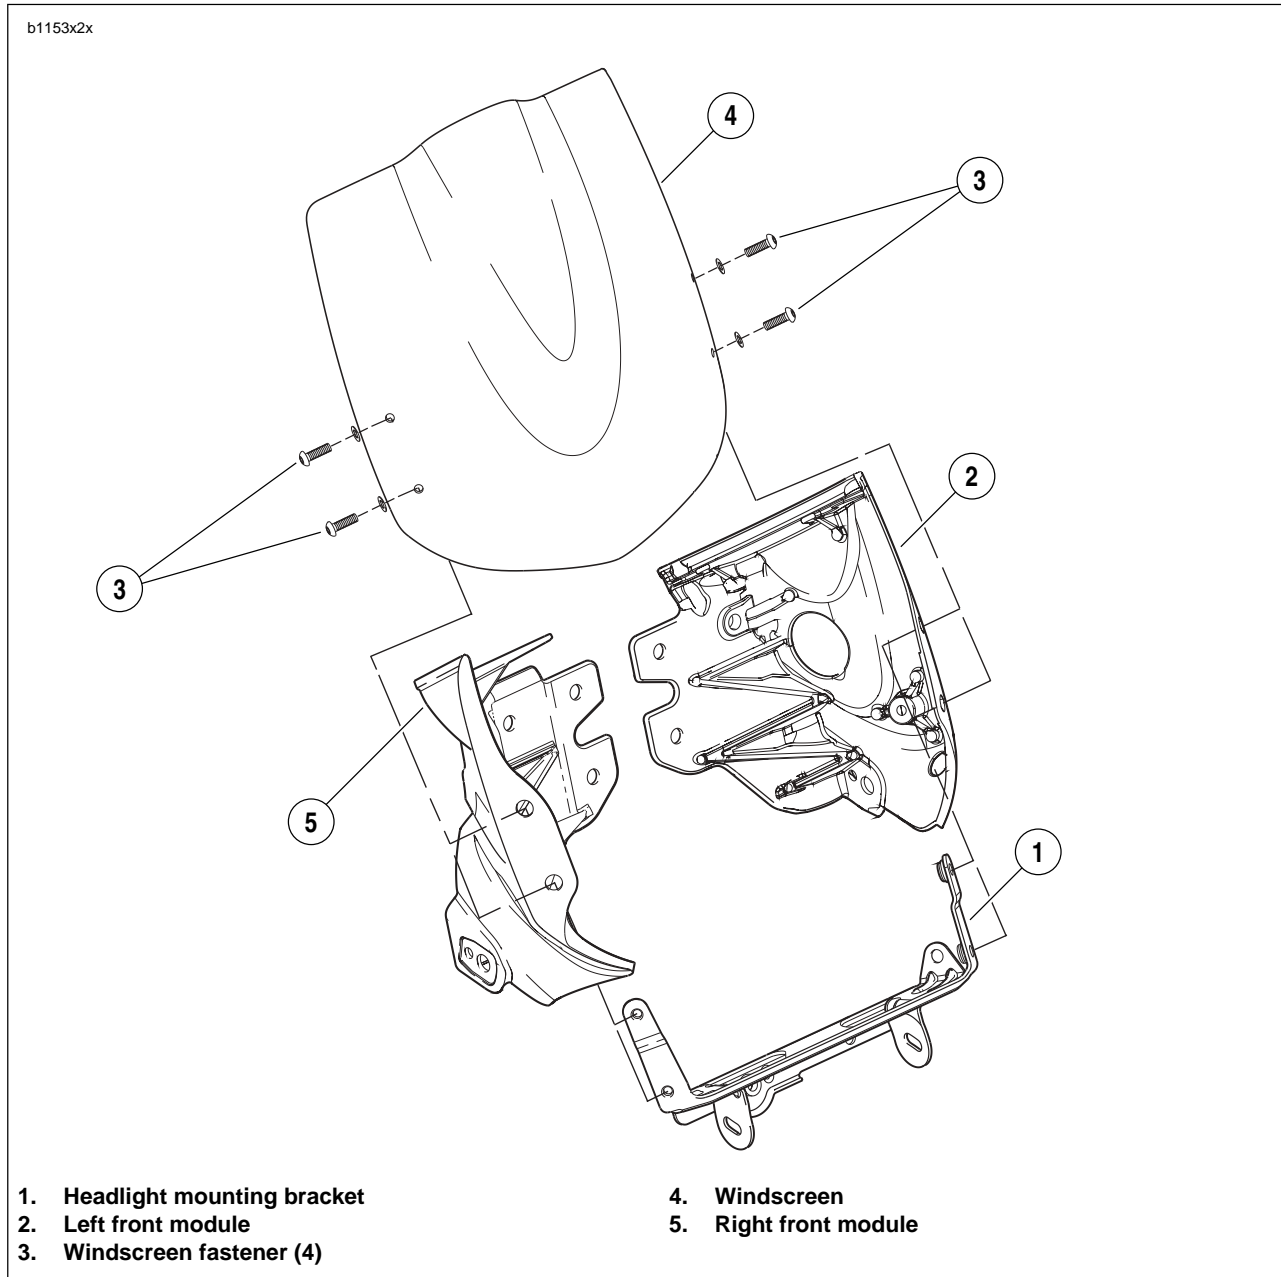

Figure 2-113. Front Windscreen
1. See Figure 2-113. Remove four windscreen fasteners (3)
2. Remove windscreen (4).
1. See Figure 2-113. Position windscreen (4) onto left and right front modules (2, 5).
2. install four fasteners (3) and tighten 10-12 in-lbs (1.1-1.4 Nm).